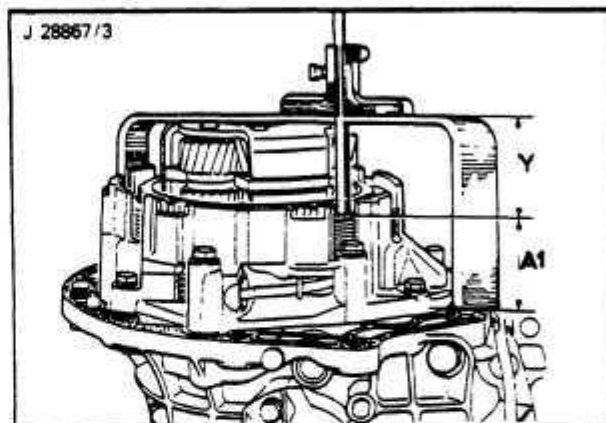

Fig. 38 BRAKE B-2 OPERATING CLEARANCE
Use a depth gauge to measure the distance between the top face of the special tool and the last B2 disc. Fig. 38 – "Y"
- c. Subtract the measurement from 120 mm (4.724 in.) to obtain the final dimension. Fig. 38 – "A"
- 57.03 mm	Dimension "A" Fig. 38